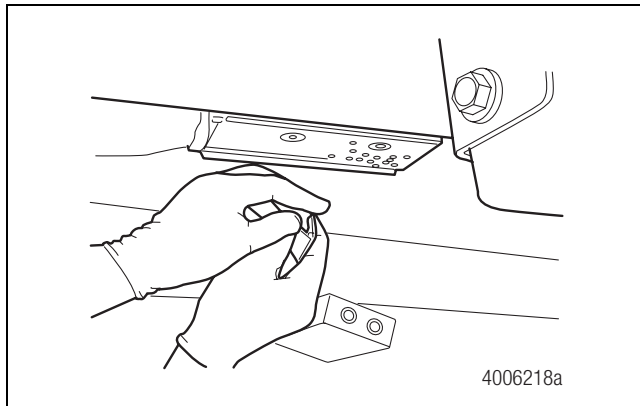

Figure 4.27
11. Remove and discard the rubber-coated seal plate. **Do not reuse this plate.** During installation, use the new seal plate included with the relay valve replacement kit. Figure 4.27.